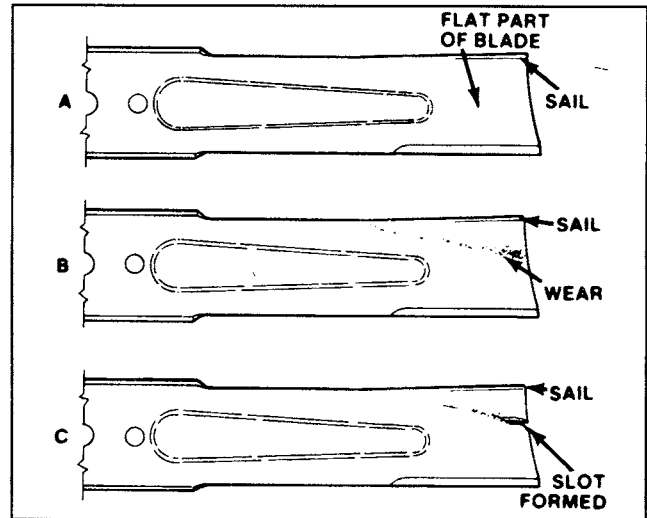

Figure 25
(Fig. 25 – 26)
4. Examine cutting ends of the blade carefully, especially where the flat and curved parts of the blade meet (Fig. 25–A). Since sand and abrasive material can wear away the metal that connects the flat and curved parts of the blade, check the blade before using the machine. If wear is noticed (Fig. 25–B), replace the blade: refer to Removing Cutter Blade.
If blade is allowed to wear, a slot will form between the sail and flat part of the blade (Fig. 25–C). Eventually a piece of the blade may break off and be thrown from under the housing, possibly resulting in serious injury to yourself or bystander.